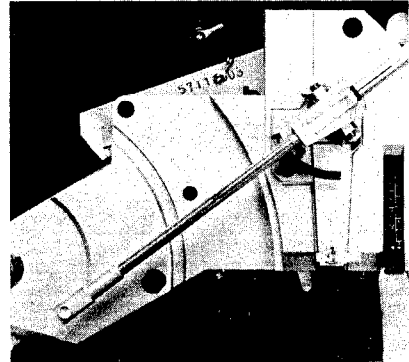

Fig. 8
1. Remove the anti-skating cover as shown in Fig. 8.